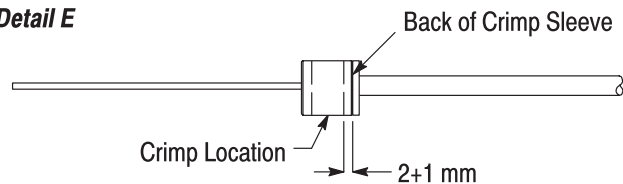

Figure 4
1. Apply 1 or 2 small drops of the instant adhesive onto the cable jacket between 4 and 5 mm from the stripped end of the jacket. See Figure 4, Detail A.
2. Slide the crimp support (large diameter end first) over the fibers and strength members and onto the jacket until it bottoms. See Figure 4, Detail B.
3. Apply a thin band of the instant adhesive around the knurled portion of the crimp support. Make sure that the band is continuous around the entire circumference. See Figure 4, Detail C.
4. Flare the strength members away from the fiber. See Figure 4, Detail C.
Then *quickly*, before the instant adhesive *begins* to harden, slide the crimp sleeve over the fiber, pushing the strength members back over the crimp support until it bottoms on the rear flange of the crimp support. See Figure 4, Detail D.
5. Place the crimp sleeve in the 8.6-mm hex nest of the hand tool, and crimp the crimp sleeve onto the crimp support. Make sure to position the crimp sleeve in the hex nest so that the crimp will locate from the back of the crimp sleeve to within the dimension shown in Figure 4, Detail E.